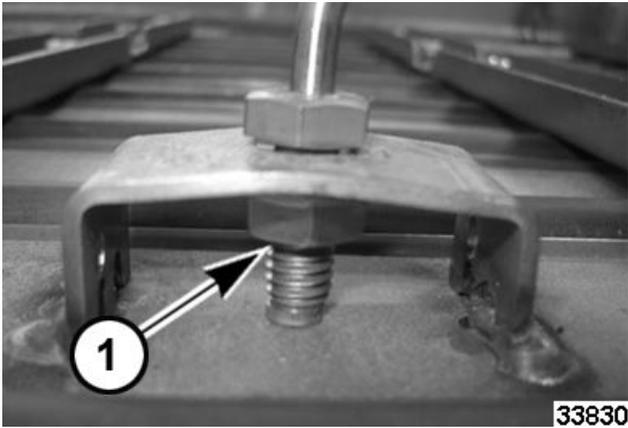

Fig. 31
5. Remove mounting bolt (1, Fig. 31).